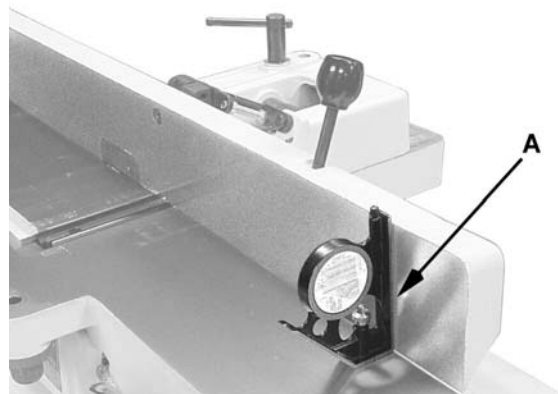

Figure 14
2. Move the fence by releasing *lock handle* (D) and pushing the fence assembly until it overlaps the tables (B).
3. Tighten *lock handle* (D).
4. Adjust the fence to a 90° angle by releasing *lock handle* (J), pulling up on the *fence handle* (A), and tightening the *lock handle* (J).
**Note:** The *stop bolt* (E) should be resting against the *stop plate* (C).
5. Place an angle measuring device on the table and against the fence to confirm a 90° setting (A, Fig. 14).
6. If the fence is not square to the table, release the *lock handle* (J), loosen the hex nut (F), and turn the *stop bolt* (E) until the fence is square to the table.
7. Tighten the lock nut (F) to retain the setting. Tighten the lock handle (J).